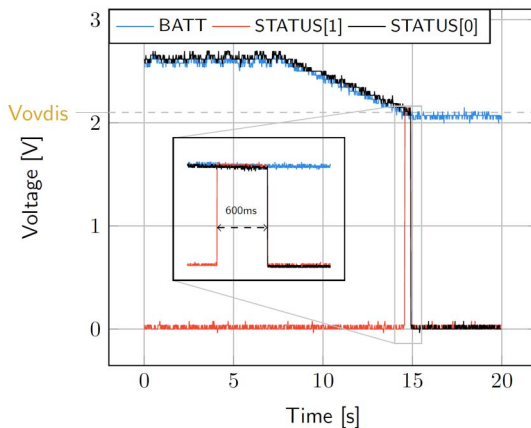

Figure 5: LDOs disabled around 600 ms after **BATT** reaches **VOVDIS**
- **BATT**: Voltage decreases as the system consumes the power accumulated in the storage element. The voltage remains stable after crossing  $V_{OVDIS}$  (see Figure 5).
- **STATUS[0]**: De-asserted when the LDOs are no longer available as the storage element is running out of energy. This happens 600 ms after **STATUS[1]** assertion (see Figure 5).
- **STATUS[1]**: Asserted for 600ms when the storage element voltage (**BATT**) falls below **VOVDIS** (see Figure 5).